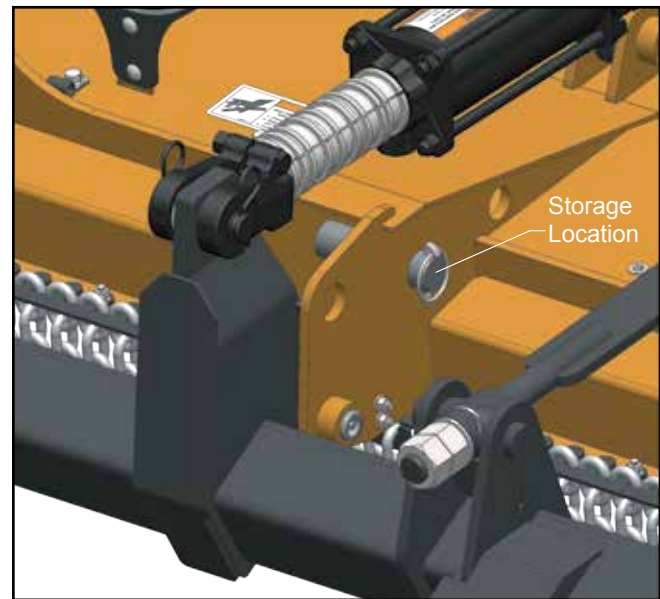

Figure 5. Transport Lock Pin In Operation Position
4. To lower cutter for operation, extend hydraulic cylinder to raise cutter. Move lock pin from lock position to storage position (Figure 5).